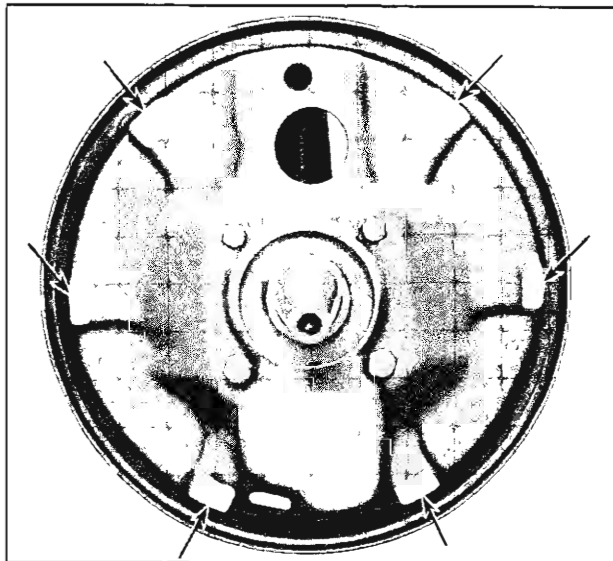

Fig. 18—Backing Plate Contact Faces
13. Check all brake flange plate attaching bolts to make sure they are tight. Clean all rust and dirt from shoe contact faces on flange plate, using fine emery cloth (fig. 18).